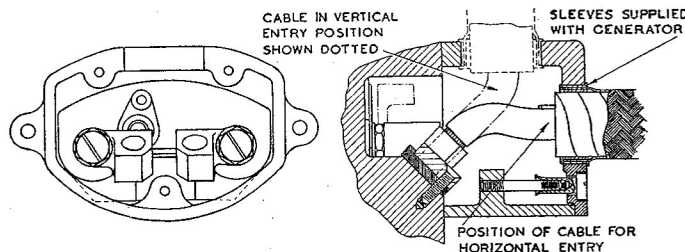

Fig. 3. Terminal box
5. This generator has been fitted with two types of terminal box. Earlier models were fitted with box (*Stores Ref. 5U/1171*) which is suitable for Trigenmet 2 cable only. Later models have box (*Stores Ref. 5U/373*), illustrated in *fig. 3*, and is suitable for either Trigenmet 2 or Trigenmet 3 cable. The different combinations of terminal box and cable end fittings are given in Table 1.